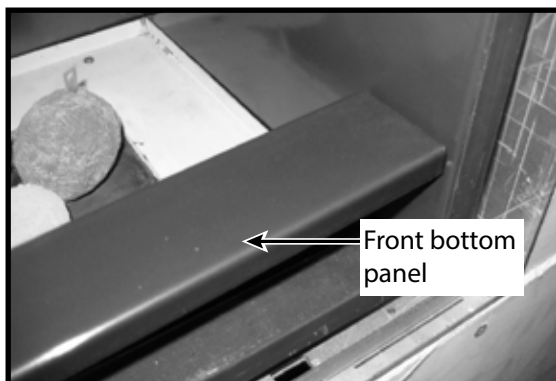
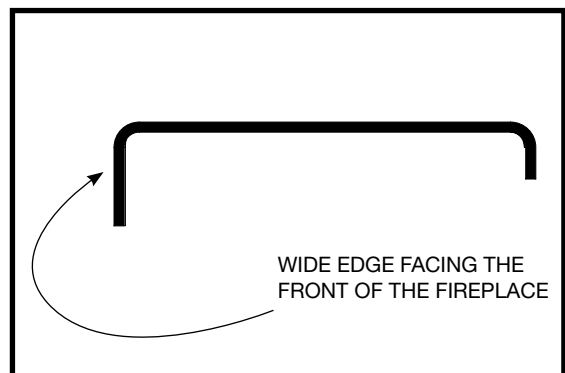

Figure 47: Front panel.
Figure 48: Front panel - side view
4. Place the front bottom panel (Figure 47) on the front lip of the firebox, wide flange facing the front (Figure 48). (Proceed to step #5 if you are installing a TCWS.54NG03.C2 Black Diamond burner with this unit.)